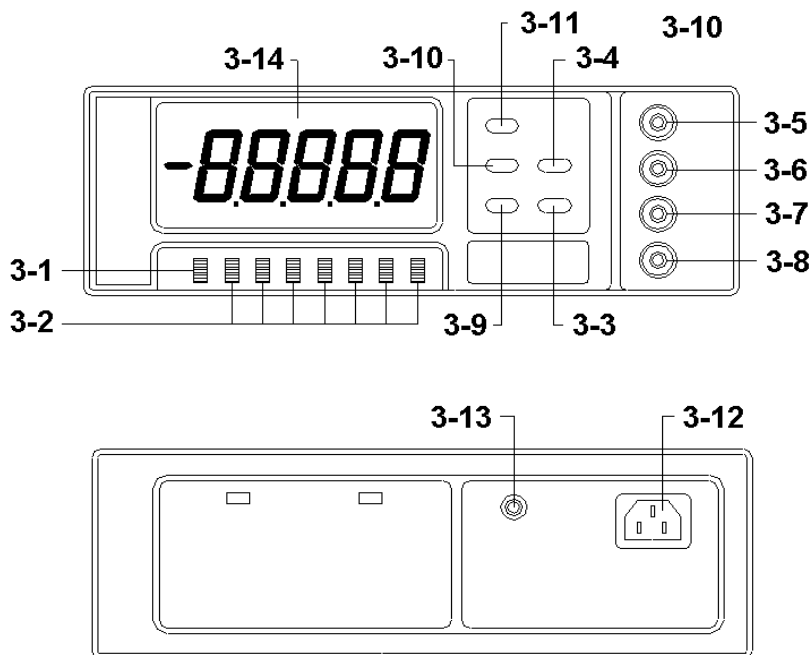

Fig. 1
- \* Red cable ( with white O ring marker ) to " Force + " terminal ( 3-5, Fig. 1 )*
- \* Red cable ( no white O ring marker ) to " Sense + " terminal ( 3-6, Fig. 1 )*
- \* Black cable ( with white O ring marker ) to " Force - " terminal ( 3-8, Fig. 1 )*
- \* Black cable ( no white O ring marker ) to " Sense - " terminal ( 3-7, Fig. 1 )*
2) Power on the instrument by pressing the " Power Switch " ( 3-1, Fig. 1 ) to the " ON " position and then select measuring range from 20 m ohm to 20K ohm according to your requirement.
If short the Kelvin clips before measurement and find few value ( not zero ) on the display, Press " ZERO button " ( 3-11, Fig. 1 ) once to execute the " Zero adjustment ".
During the measurement, press the " HOLD button " ( 3-9, Fig. 1) once will hold the measured value & the LCD will indicate a "  " symbol, press once again to delete hold function.
Press the " SET Button " ( 3-3, Fig. 1 ) to enter setting mode.
*\* Press the " SHIFT Button " ( 3-4 , Fig. 1 ) to shift 1st digit to next digit unit (10th, 100th, 1000th), other procedures same as above.*
- 4) During the measurement period press " COMP Button " ( 3-4 , Fig. 1 ) once, the display will show " GOOD " or " HIGH " or " LOW " symbols to inform the measurement status.
*\* Press " BEEP Button " ( 3-10, Fig 1 ) button once will disable ( stop ) the " BEEP " function.*
*Press " BEEP Button " ( 3-10, Fig 1 ) button once again will enable ( start ) the " BEEP " function.*
The instrument has RS232 PC serial interface via a 3.5 mm terminal ( 3-13, Fig. 1 ).